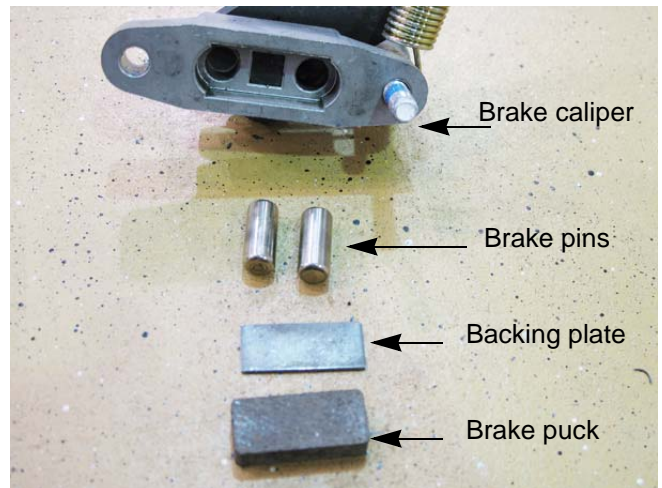

Figure 3.11
9. With the caliper on a work bench, remove the brake puck, backing plate and the two brake pins. See Figure 3.11.